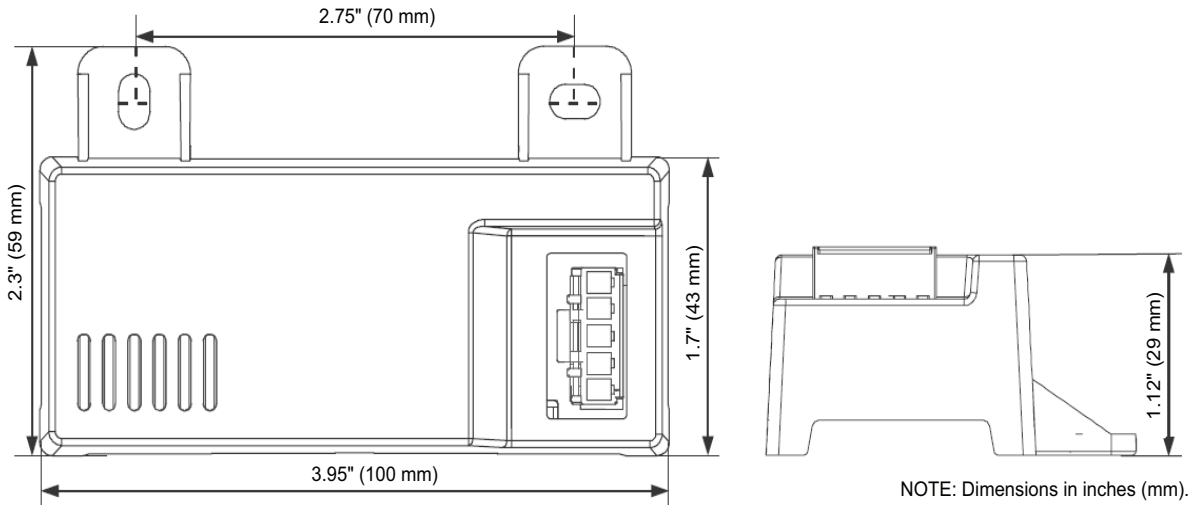
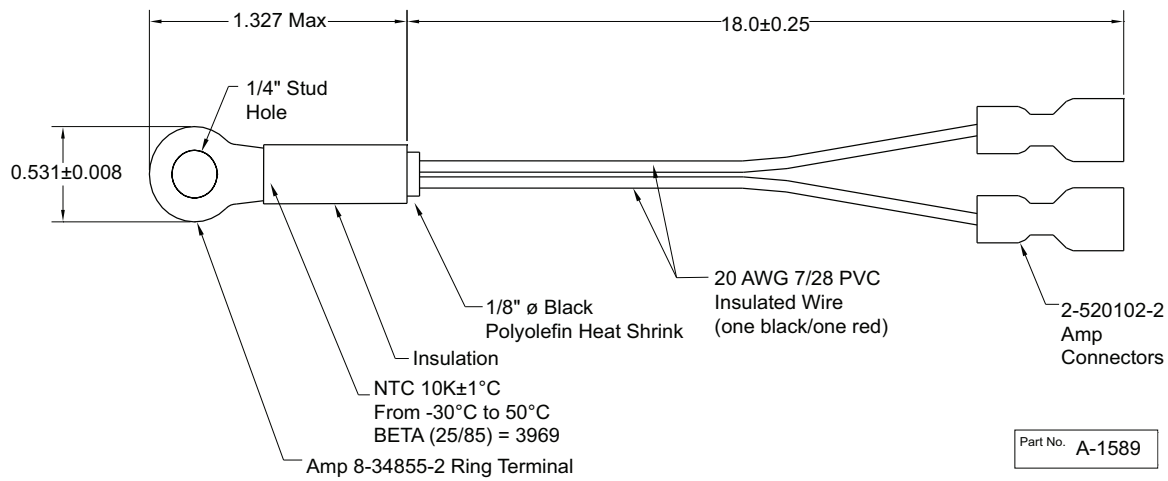
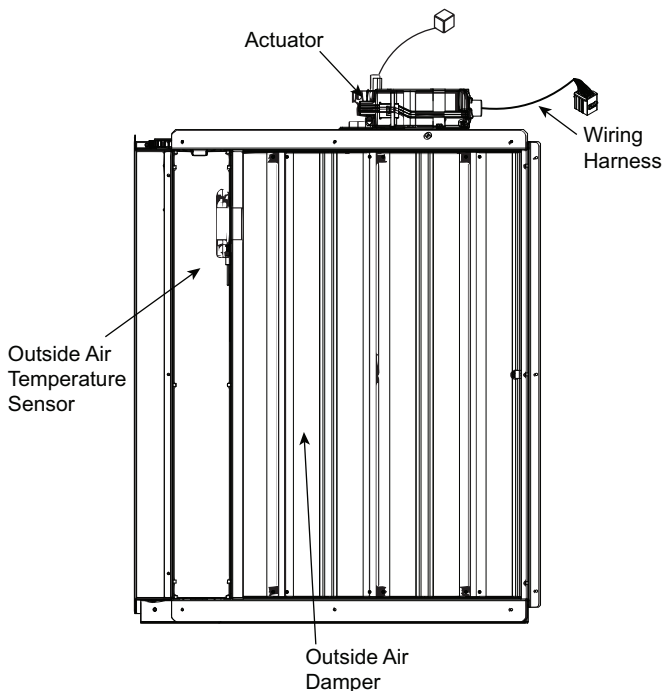

Fig. 64 – HH57LW001 Dimensional, Connection and Switching Information
Fig. 65 – HH79NZ039 Dry Bulb and Mixed Air Sensor Wiring
Fig. 66 – EconomizerONE Component Locations (CRECOMZR108A00 Shown)
When using the HH57LW001 enthalpy sensor (see Fig. 64) for outside air changeover, the existing HH79NZ039 dry bulb sensor (see Fig. 65) must be removed. The enthalpy sensor will be mounted in the same location as the dry bulb sensor (see Fig. 66). When the enthalpy sensor's OA (Outside Air) temperature, enthalpy, and dew point are below their respective setpoints, the outside air can be used for free cooling. When any of these are above the setpoint, free cooling will not be available. Enthalpy setpoints are configurable and create an enthalpy boundary according to the user's input. For additional details, see Fig. 67-68 and Table 28.
The optional enthalpy control sensor (P/N: HH57LW001) communicates with the POL224 economizer controller using the 5-wire harness, 48TC005213. The HH57LW001 sensor can be used as a single outside air enthalpy, a differential return enthalpy, or a differential return temperature sensor. Refer to the base unit control wiring diagrams found earlier in this book to wire the HH57LW001 enthalpy sensor for each option. Use Fig. 64 and Table 30 on page 52 to locate the wiring terminals for each enthalpy control sensor.
Economizers are shipped standard with an HH79NZ039 outside air dry bulb sensor (see Fig. 65). System default setting (high temp limit) is 63°F (17°C) and has a range of 48°F to 80°F (9°C to 27°C). Sensor is factory installed on economizer.
If installing the optional HH57LW001 enthalpy sensor, the HH79NZ039 dry bulb outside air sensor must first be removed. Wire sensor to harness 48TC005213 and the (5) wires from the harness to the EconomizerONE harness in the return air chamber. Harness 48TC005213 has a 5-pin plug that connects directly to the HH57LW001 enthalpy sensor. Refer to the base unit control wiring diagrams earlier in this book for wiring connections. Refer to Fig. 64 and Table 30.